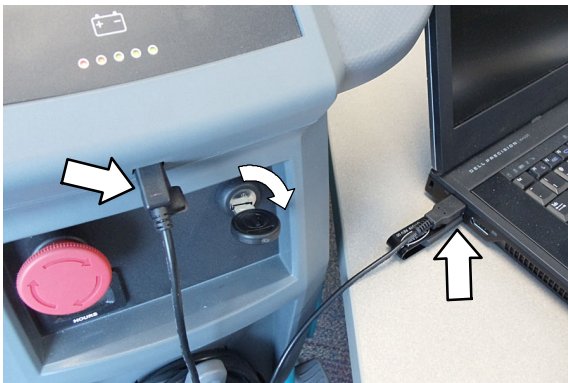

Fig. 41
2. Connect the USB cable to computer and to the USB port on machine as shown. Turn the key switch to the on position (Figure 41).